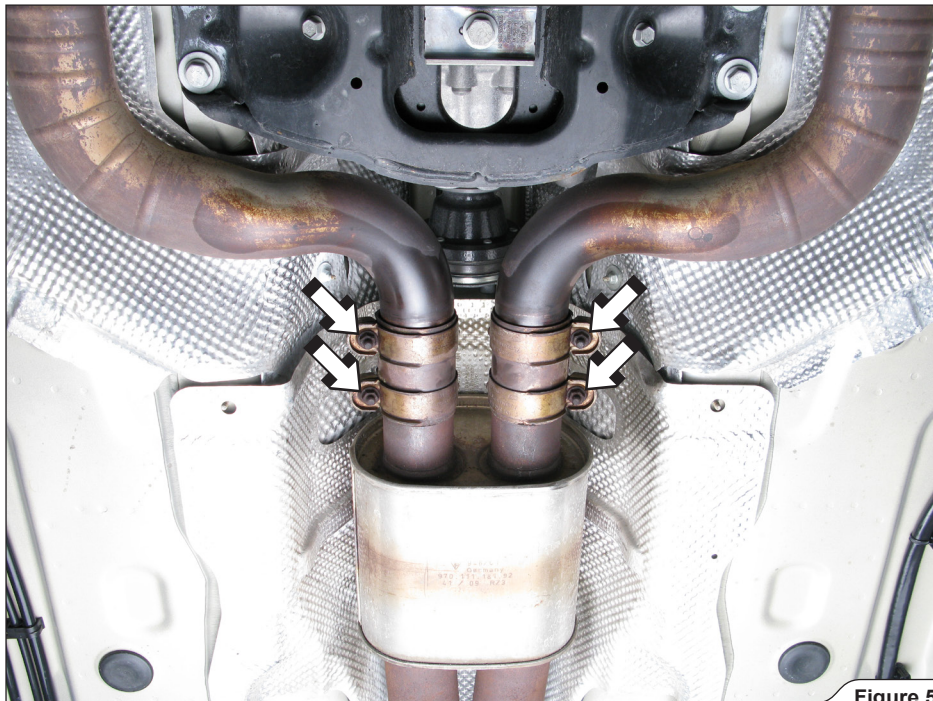

Figure 5
3. **For all vehicle models:** loosen the marked clamps' nuts and slide them off the pipes' joints (Figure 5).